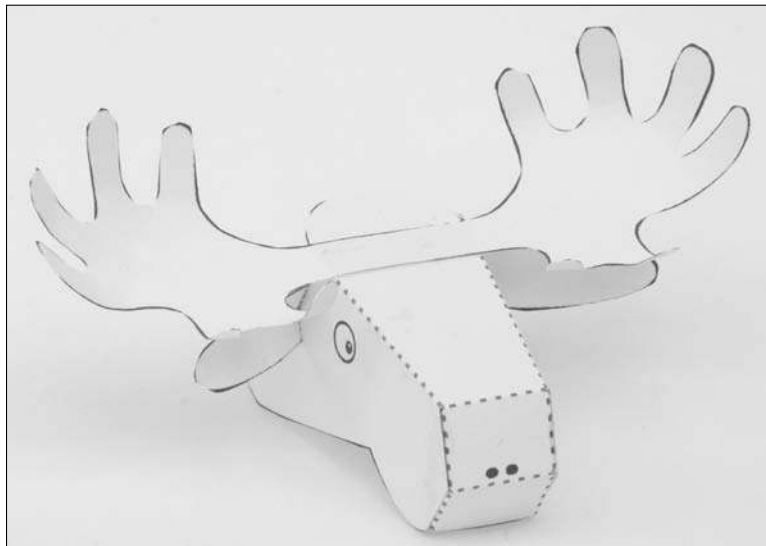

Figure 11-7:
- 3. Glue the parts of the head together (using Figure 11-7) and add the ears and antlers.**